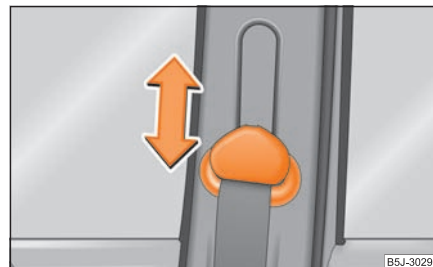

Fig. 147 Front seat: Seat belt height adjuster
- To adjust the belt height press the height adjuster and move it up or down ⇒ fig. 147.